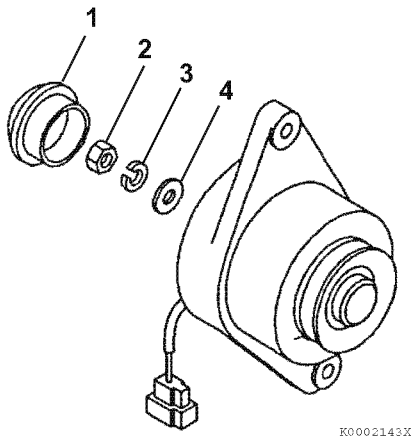

Figure 12-29
5. Reinstall the flat washer (Figure 12-29, (4)), lock washer (Figure 12-29, (3)), and nut (Figure 12-29, (2)). Tighten the nut to the specified torque.
6. Reinstall the rear cap (Figure 12-29, (1)).